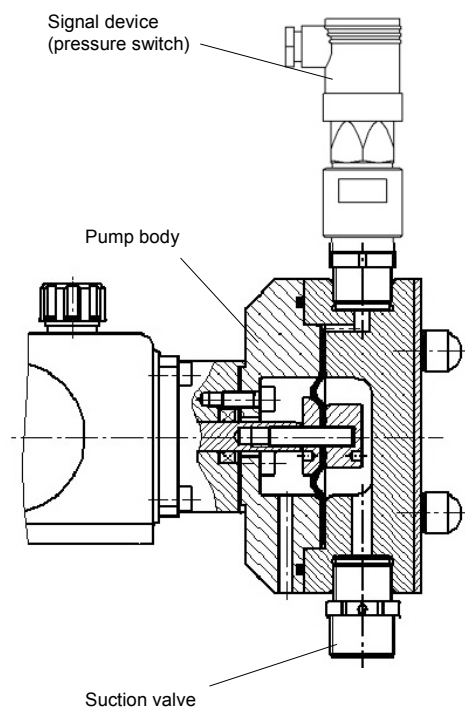

Fig. 53
- Screw in the signal device (see Fig. 53).